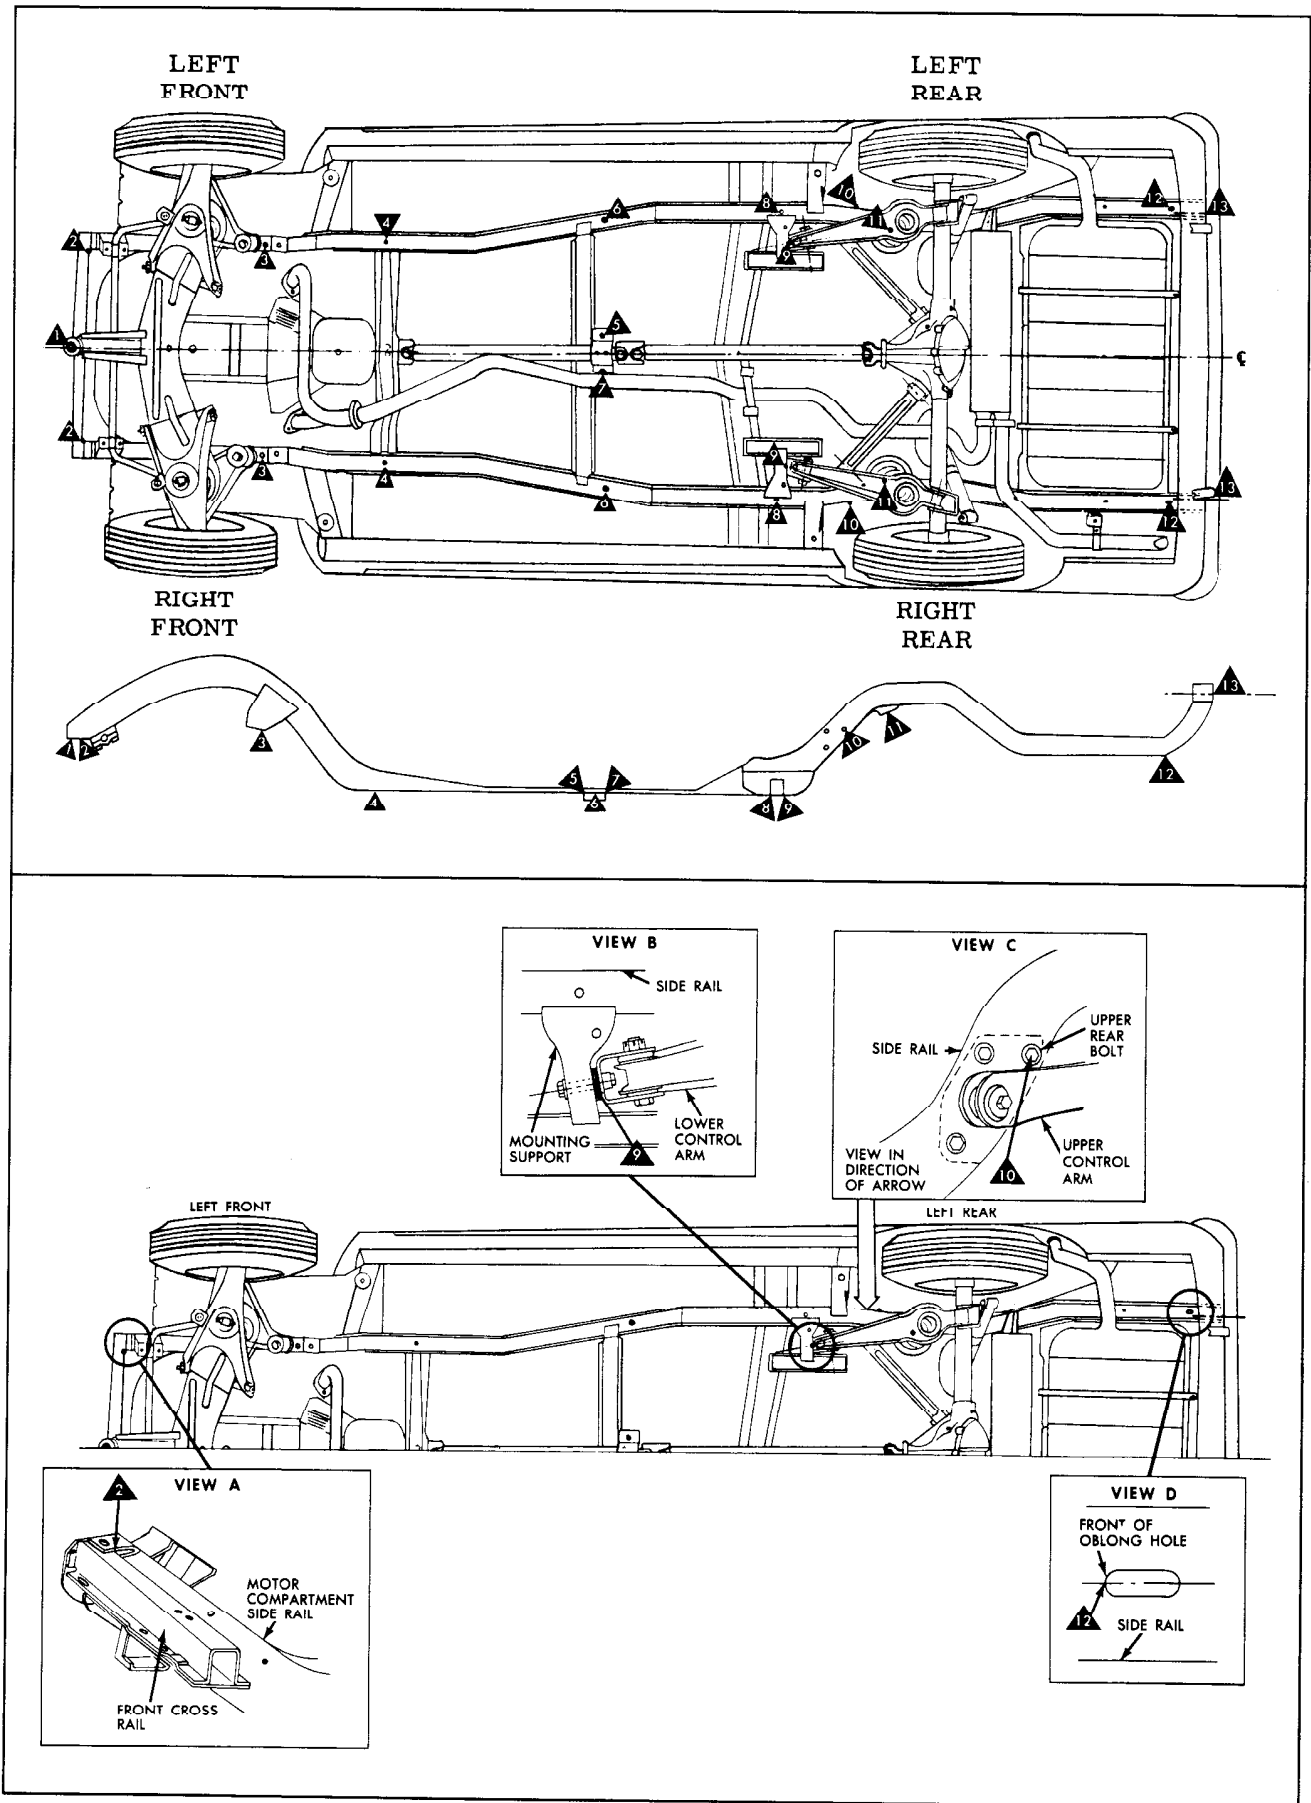

Fig. 15-1 Location of Underbody Alignment Reference Points (Consists of 15-1-A & 15-1-8)
Fig. 15-1 shows the specific reference points used in making underbody measurements. Dimensions to gauge holes and other unthreaded holes are measured to dead center of the holes and flush to the adjacent surface metal.
2. Rear edge of front cross rail at point of contact with inboard facing of motor compartment side rail. See View "A" in Fig. 15-1.
9. Lower rear edge of rear suspension mounting support, directly below center of rear axle lower control arm front support bracket attaching bolt hole. See View "B" in Fig. 15-1.
10. Center of rear axle upper control arm upper rear attaching bolt hole on outboard side of rear compartment side rail. See View "C" in Fig. 15-1.
12. Center front edge of oblong hole in bottom surface of rear compartment side rail (located slightly forward of rear end lower panel). See View "D" in Fig. 15-1.
NOTE: In some cases, reference point 6 may have been omitted. This is a 5/16" hole exactly midway between points 5 and 7 on frame rail. (Fig. 15-1)
1. Center of front crossmember front attaching bolt hole. (Point 1, Fig. 15-1)
2. Center of gauge holes in front crossmember rear attaching bolt support brackets. (Point 3, Fig. 15-1)
3. Center of gauge holes in motor compartment side rail at transmission. (Point 4, Fig. 15-1)
4. Center of gauge holes in side rails at drive shaft center bearing support. (Point 6, Fig. 15-1)
5. Center of gauge holes in rear compartment side rail at lower control arm. (Point 8, Fig. 15-1)
6. Below center of lower control arm front support bracket attaching holes. (Point 9, Fig. 15-1)